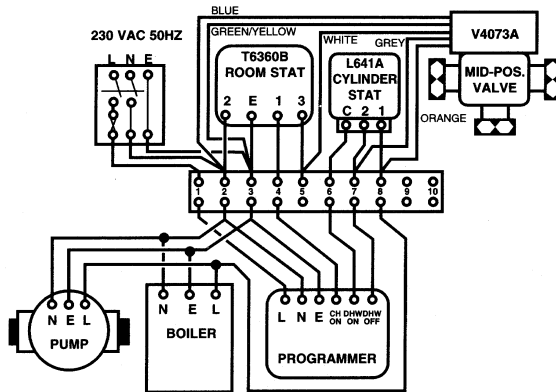

Fig. 4. Wiring Diagram
5. Reconnect the wiring as shown in Fig. 4 or follow the steps in the section Relay Model Replacement.